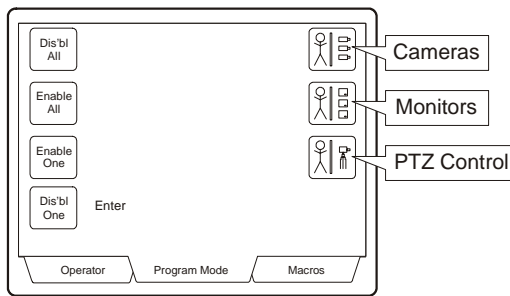

Figure 4.6: Partition Menu
3. Press the PARTITION soft key. The Partition menu will be displayed (figure 4.6).
4. Press the PARTITION QUICKSITE soft key. The partition menu will be displayed (figure 4.6), but an extra soft key is added to the bottom right of the screen.